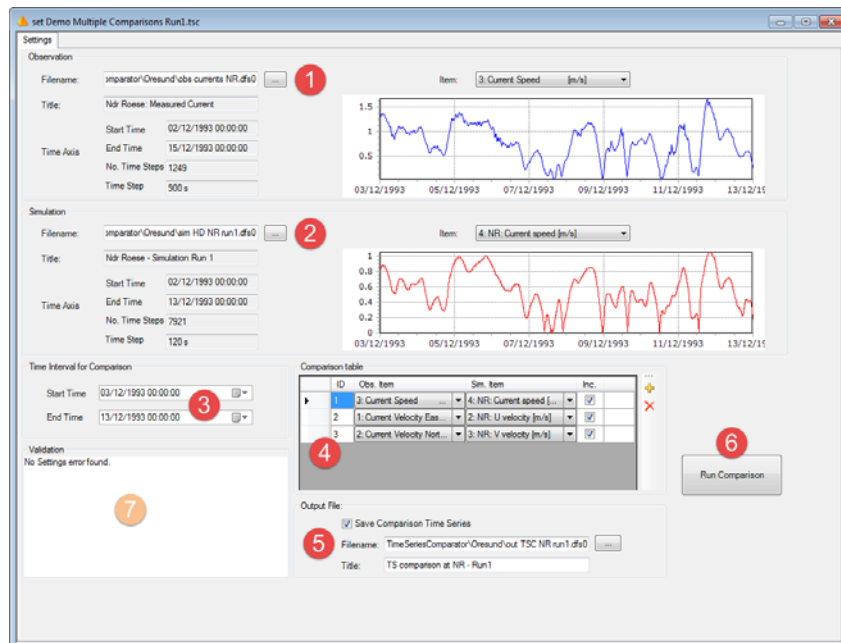

Figure 25.2 Settings tab dialog.
The user setups a comparison by (numbers refer to Figure 25.2 below):
The Comparison table is where the user defines the different time series pairs he wants to compare using this tool ((4) in Figure 25.2). A comparison is
Optionally Time Series files (dfs0) of observation, simulation and difference can be saved for each defined combination in the above Comparison table ((5) in Figure 25.2). The “ – Combination i” will be augmented to the filename defined in the GUI for each defined combination (where i is the number of the comparison).